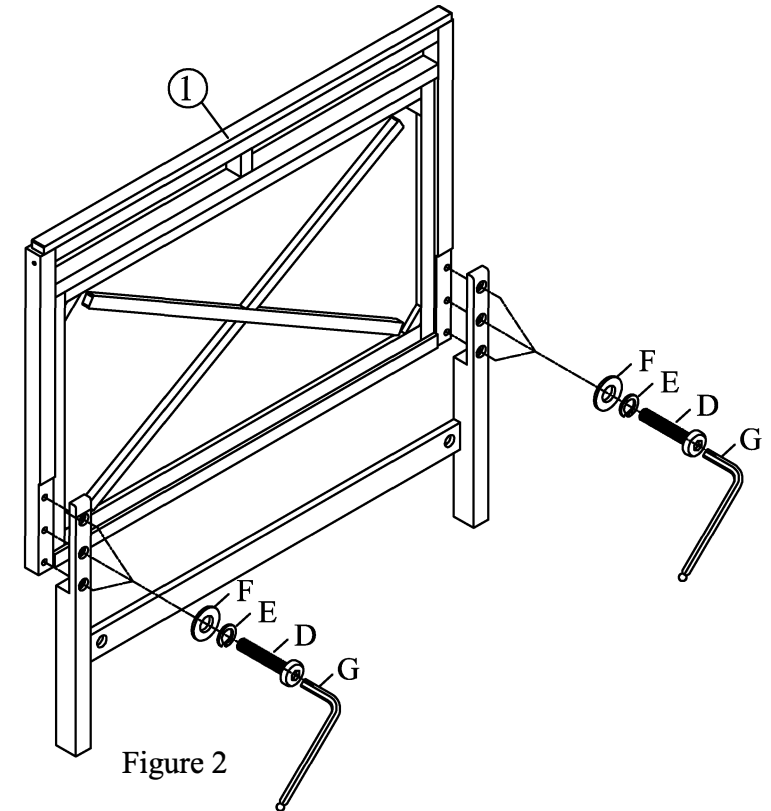

Figure 2
- STEP 3. Attach the headboard panel (1) to headboard leg (2), (3) with lock washer (E), flat washer (F) and bolt (D). Five pieces per leg. Tighten the bolts using allen key (G). See Figure 2
STEP 3. Assemble the leg supports to the bed slats. See Figure 2.